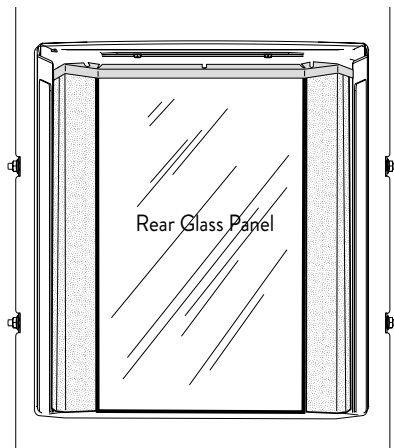

Figure 7.10. Install Rear Glass Panel.
- Orient the rear panel, smooth side out, textured side in.** Rest the bottom of the panel on the burner skirt, centered against the back wall. See fig. 7.10.